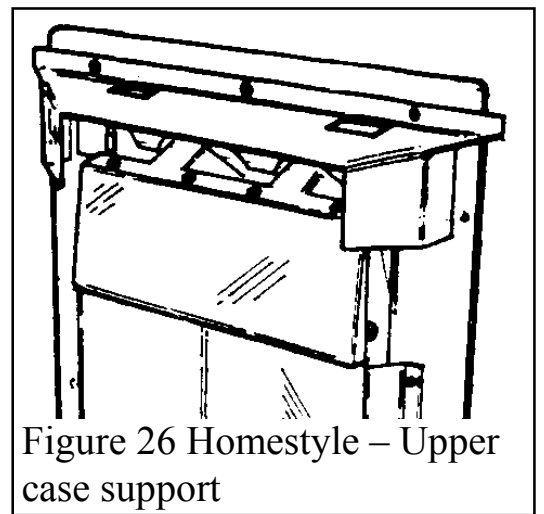

Figure 26 Homestyle - Upper case support
2. Fit the upper case support to the top of the convection box with the three screws provided. Insert the screws **from the back** of the appliance. See figure 26.